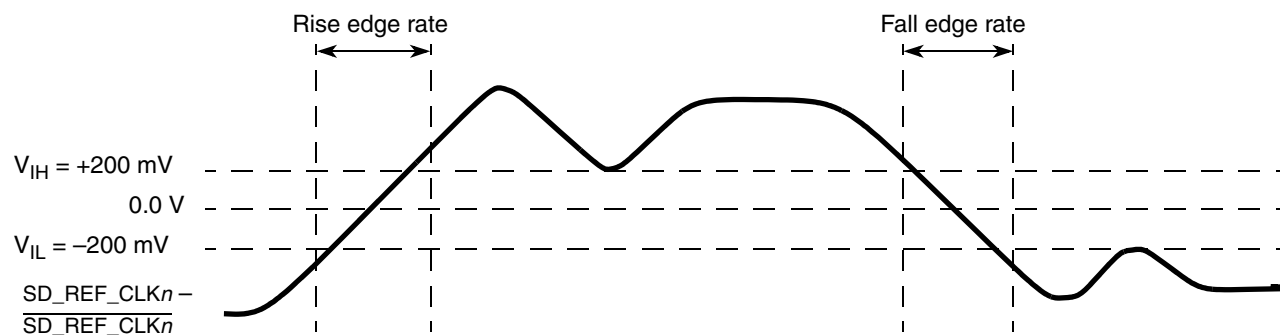

Figure 41. Differential measurement points for rise and fall time
waveform is not referenced to ground. See Figure 41, “Differential measurement points for rise and fall time,” as an example for differential waveform.
3. Measured from -200 mV to +200 mV on the differential waveform (derived from SD_REF_CLK $\bar{n}$ minus SD_REF_CLK n). The signal must be monotonic through the measurement region for rise and fall time. The 400 mV measurement window is centered on the differential zero crossing. See Figure 41.